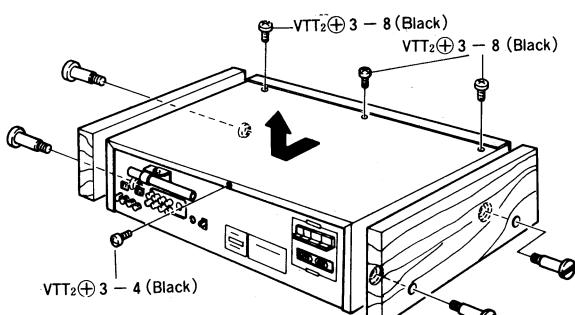

Fig. 1
- Remove 8 screws. (Refer to Fig. 1)